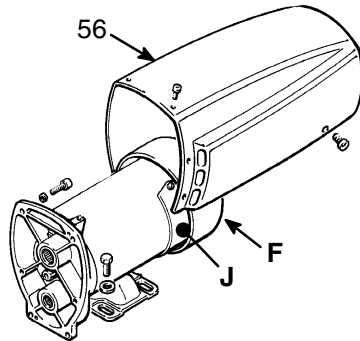

Fig 25-1
1. Remove the motor shield (56). Remove the inspection covers (J) and gaskets (K) on each side of the motor. Refer to Fig 25-1.